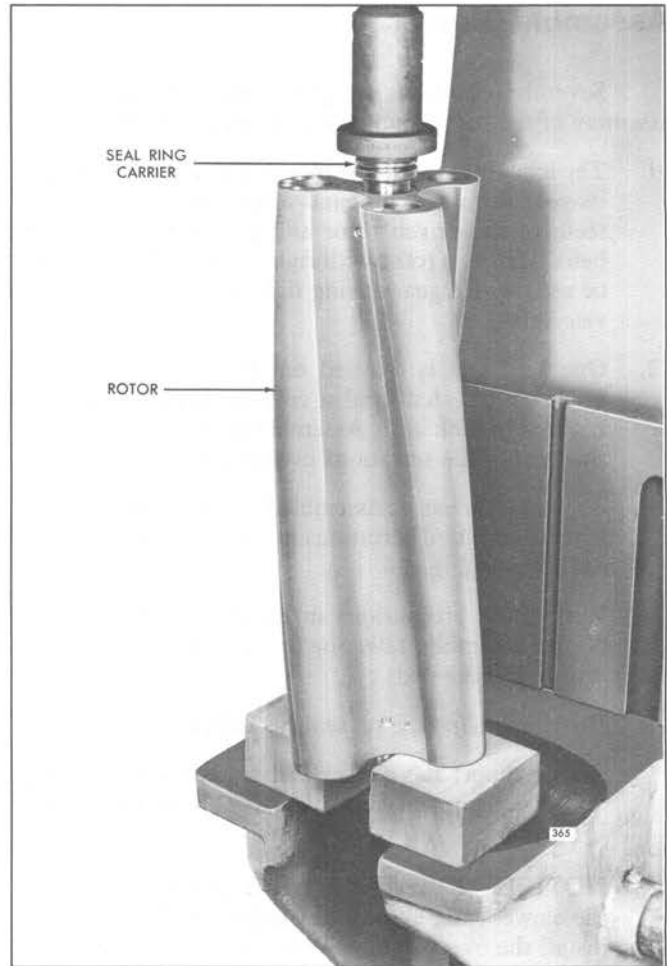

Fig. 15 – Installing Oil Seal Ring Carrier on Blower Rotor Shaft (V-92T Blowers) with Tool J 6270-4
- a. Support one of the rotor assemblies on wood blocks on the bed of an arbor press (Fig. 15).